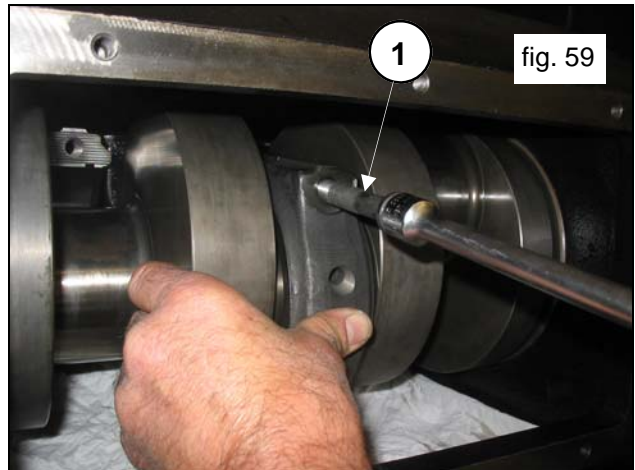

fig. 59
Fasten the caps to the connecting rods using the M12x1.25x87 screws (pos. ①, fig.59).